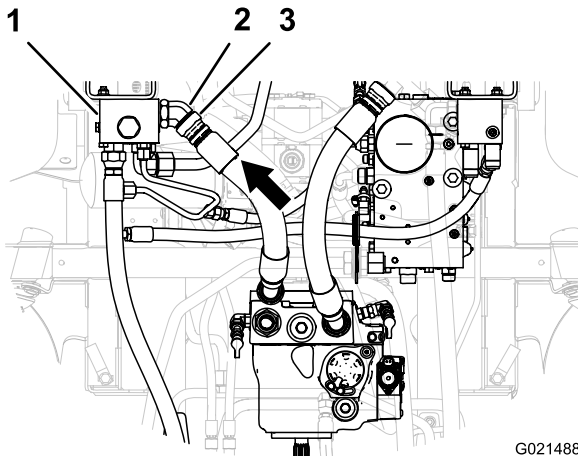

Figure 18
3. Align the straight fitting of the hydraulic-pressure hose with the 45° hydraulic fitting in the flow-divider manifold (Figure 18).
4. Thread the straight fitting of the hydraulic-pressure hose onto the 45° hydraulic fitting in the flow-divider manifold (Figure 18).